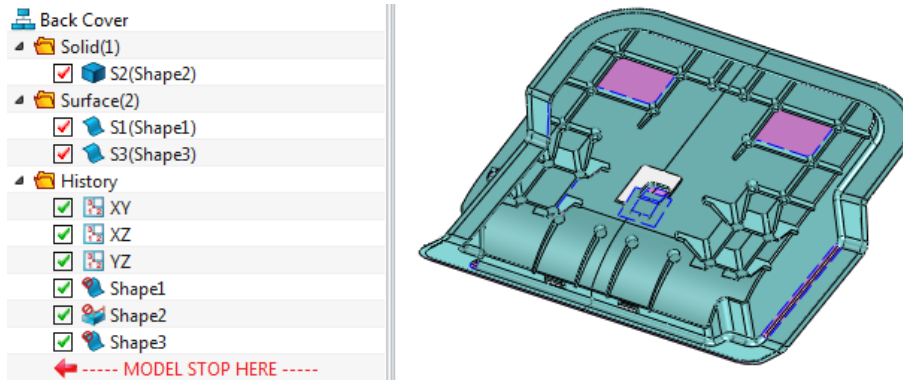

Figure 4 Imported Part Model
STEP 04 After importing, **Ctrl+A** to zoom all, then the imported model will show as Figure 4.